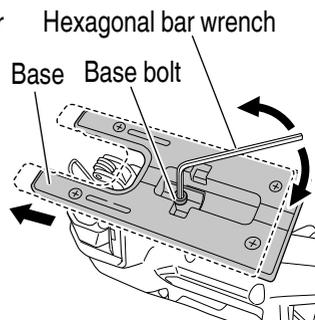

Fig. 35
- (1) Loosen the base bolt by hexagonal bar wrench attached on base. (**Fig. 35**)
- (2) Move the base fully forward, and tighten the base bolt again. (**Fig. 35**)